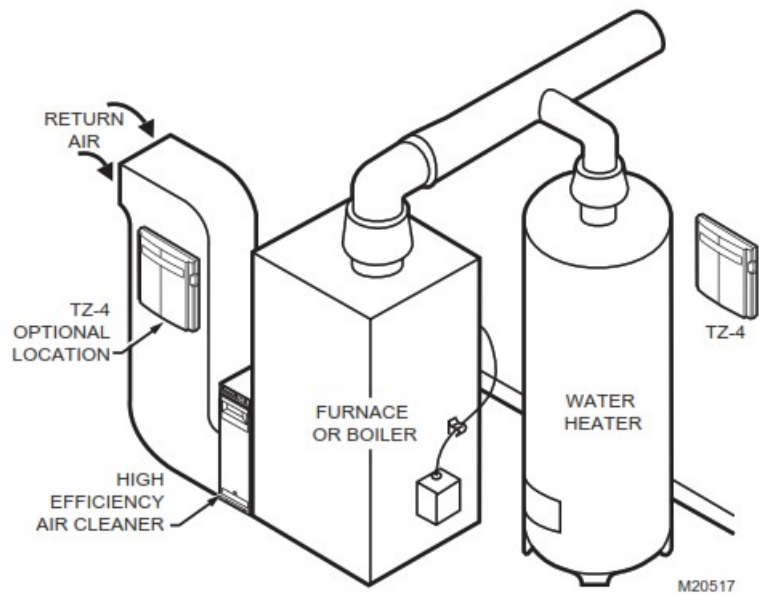

Fig. 2. TZ-4 mounting location.
3. Mount the TZ-4 zone panel near the HVAC equipment; (on a wall or on the cold-air return). See Fig. 2.